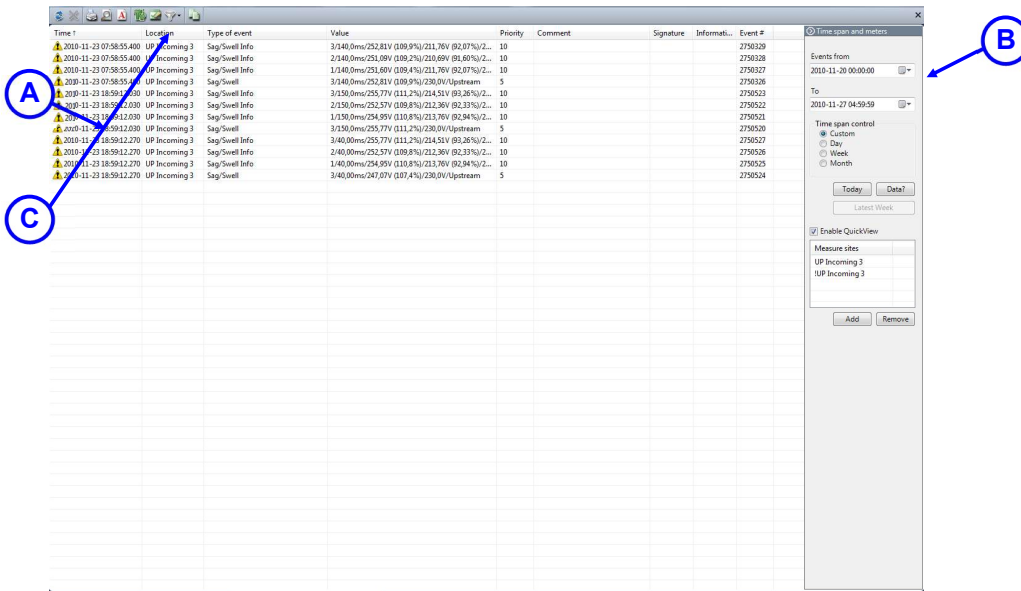

Figure 56
Figure 56 shows a local event list with one meter selected.
- A. **Event list** – This is where all the events registered during the specified time span are listed (*see* Figure 56)
- B. **Time and location** - Here you can manually select the time span and from which meters you wish to have the information displayed (*see* Figure 56 (B)).